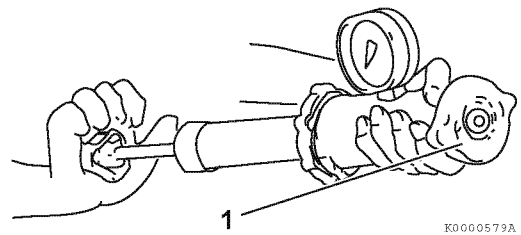

Figure 8-11
1. Check for proper operation of the radiator cap. Install the radiator cap (Figure 8-11, (1)) on a cooling system tester.